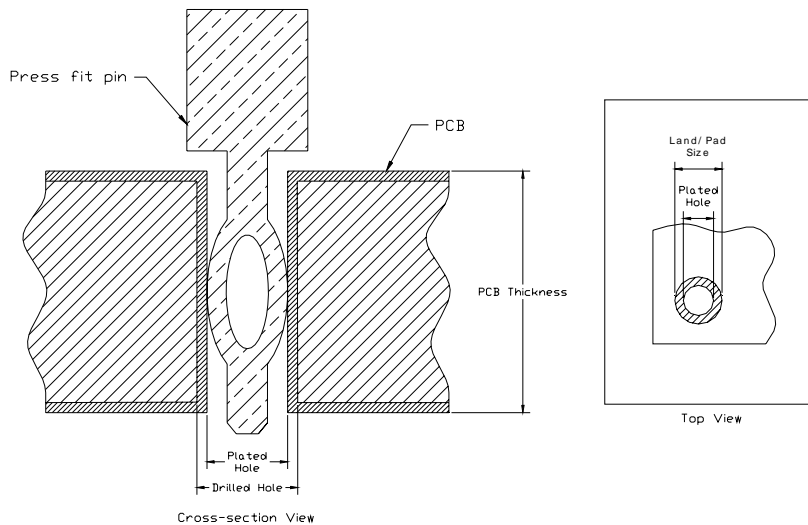

Figure 6 - Important features of PCB design for Metral™ Connectors.
- Figure 6 shows the important features of the PCB.